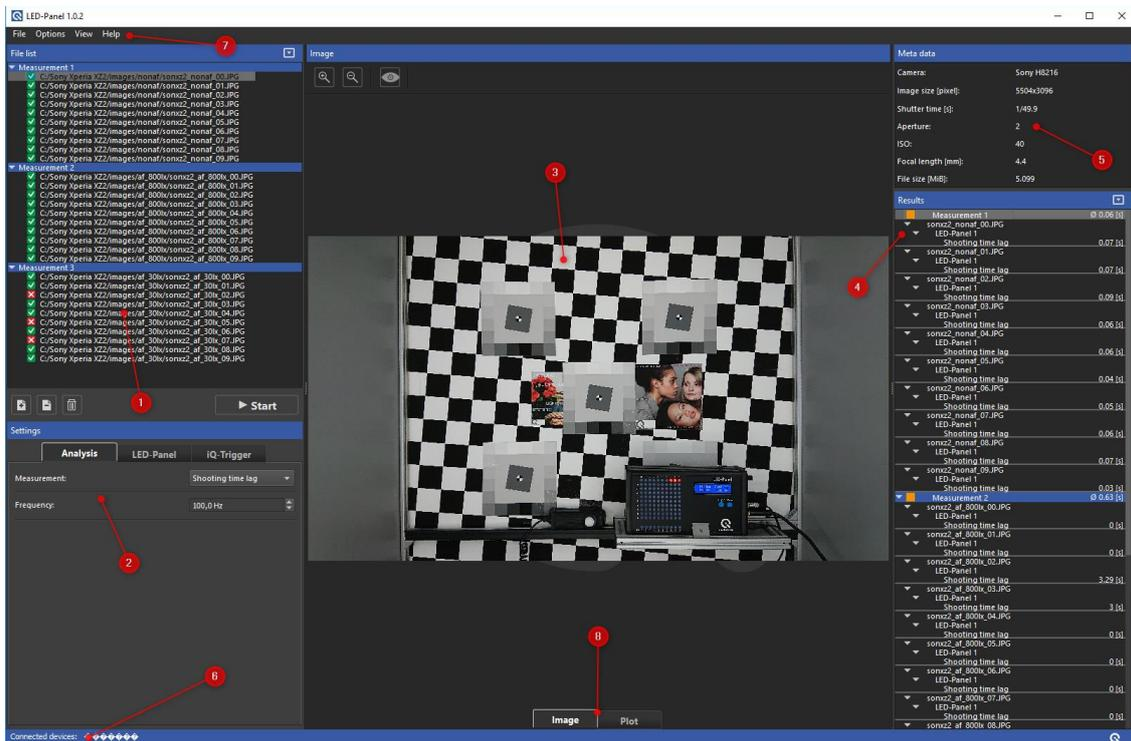
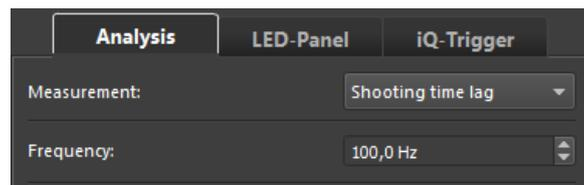

Figure 15
Figure 17
The graphical user interface (GUI) is divided into three major parts (see Figure 15)
- the file list and the setting control panel (Figure 15, ① & ②)
- the image view (Figure 15, ③)
- the results and the metadata view (Figure 15, ④ & ⑤).
The control panel (Figure 15, ②) is divided into three tabs (Figure 17).
In the “Analysis tab” (Figure 17), you can choose the measurement method and the frequency. The set frequency calculates the time shown by the LED-Panel in your images. For further details on measuring different camera timings, please refer to chapter 5 and ISO 15781.
The image view panel (Figure 15, ③) shows the currently selected image in the file list. With the + -button you can zoom in. The - -button resets the zoom level to fit the view panel.